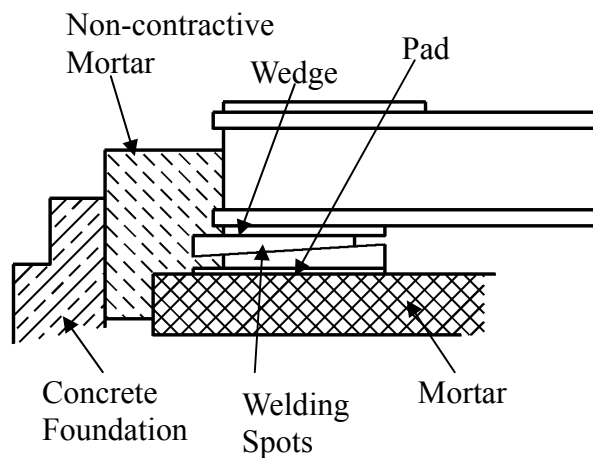

Fig. 8
- Sole plate or common bed should be embedded in concrete foundation as illustrated in Fig.8. Stiff pads should also be installed beneath the wedges which are welded together at various spots about 400-500mm (15-20inches) apart to enable the foundation to evenly carry the weight of the whole motor.